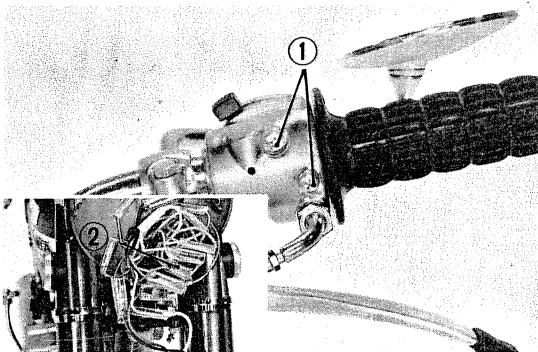

Fig. 121 Emergency switch removal
Remove the combination headlight control and emergency switch by unscrewing two mounting screws. (Fig. 121).
- 5) Remove the headlight and disconnect the wire harness in the headlight case. (Fig. 121)